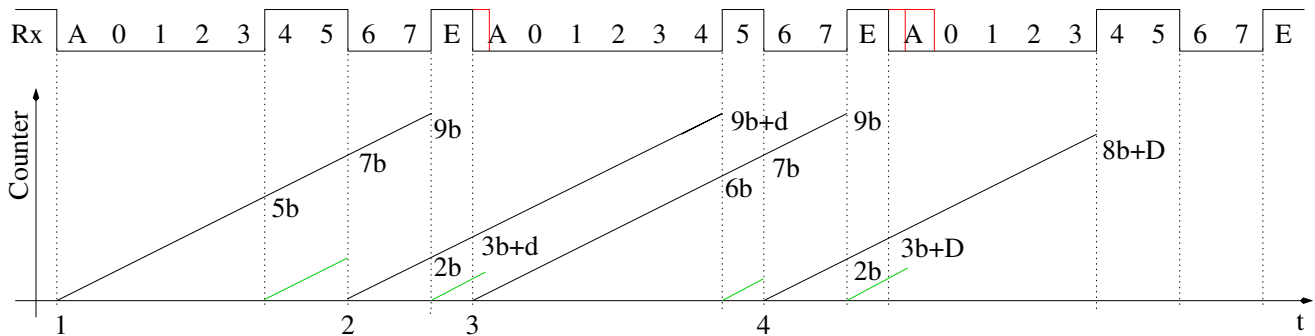

Figure 3.8. Possibel timer measurements for the STK\_GET\_SYNC sequence
If you specify a baud rate below *100Baud* for generating the bootloader code, the program will be prepared to detect the baud rate from the first received character. At the begin if the transmission with the STK500 protocol the computer send a command `STK_GET_SYNC` (0x30) followed by the control character `CRC_EOP` (0x20). For the serial transmission protocol the High level (1) is defined as the idle state. The begin of a transmission is started by a start bit with Low level (0). Directly after the end of the start bit the first data bit is send beginning with the low order bit. After the last of the agreed count of bits (8) is transmitted, the transmission is finished with one or more Stop bits at High level (1). The level of every bit is hold exactly the agreed baud time. The time between the end of the last Stop bit and the begin of the next Start bit is unspecified. The figure 3.8 shows the expected results for all possible time measurement. At the time axis "t" four possible start positions are marked for a complete time measurement of the assumed character. The counter is started in each case of a detected 1-0 slope. The right start position for the `STK_GET_SYNC` character is marked with "1". The marks "2", "3" and "4" show the situation for three possible wrong Start bit detections. For the mark "2" and "4" a 1-0 slope of data bits is detected as Start bit in a wrong way. For the mark '3' is a Start bit correctly detected, but for the wrong character (`CRC_EOP`). The wrong detections are allways possible, if the bootloader is started not before the transmission was running. The expected counter values are marked at the counter level graph for all four start positions in figure 3.8. The "b" means the counter reading for one bit transmission time (baud time), the "d" stand for a possible time delay between the end of the Stop bit transfer and the start of a new Start bit. The "D" represents a expected long time delay to the begin of the next message. The transmit sequence of the message has reached it's end and the computer wait for an answer of the AVR. In the "Rx"-row the data bits are labeled with "0" (least significant bit) to "7" (highest significant bit). The Start bit has the label 'A' and a Stop bit has the label 'E'. The first byte is the coding of the `STK_GET_SYNC` character and the second byte is the coding of the control character `CRC_EOP`.